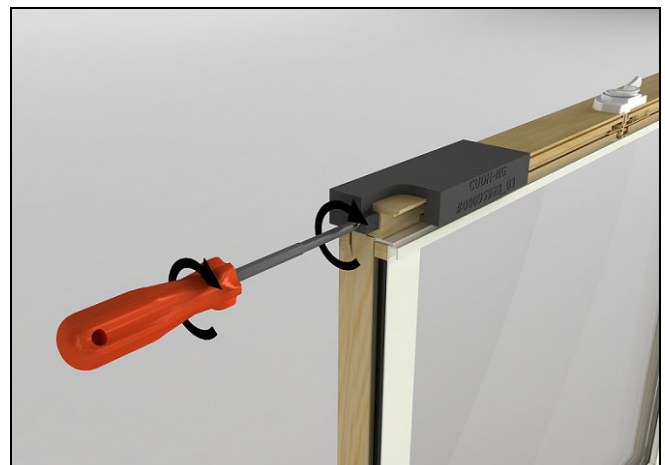

Figure 6
3. Remove the locking bolts. Slide the check rail jigs into place and secure with the screw from Step 2 See Figure 6.